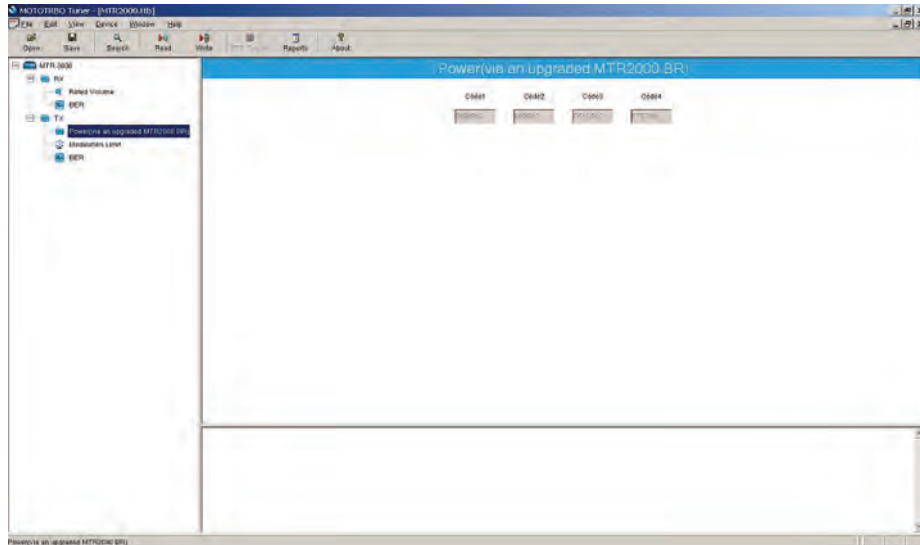

Figure 13-5 Tx Menu tree (Tuning Procedure)
4. Select “Power” under the Tx menu in the tree view (Refer to Figure 13-5).